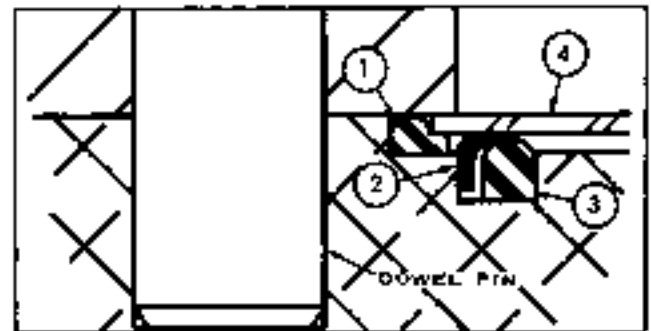

Fig. 35
Install molded rubber seal (21) in groove in pump body, with flat side of seal in groove bottom. Carefully lay back-up ring (22) in place on top of seal ring. Be sure back-up ring is completely seated around molded rubber ring and that there is no interference between seal ring and back-up ring. Fig. 35 shows a cross section view of molded seal ring and back-up ring in groove.
Install seals and back-up rings in cover as shown in Figs. 35 and 36 and install cover on pump. Use extreme caution when installing cover to body to be sure wear plate is properly seated within oval-shaped "O" ring. If plate is cocked so it does not lay within large seal, pump will not function at capacity.